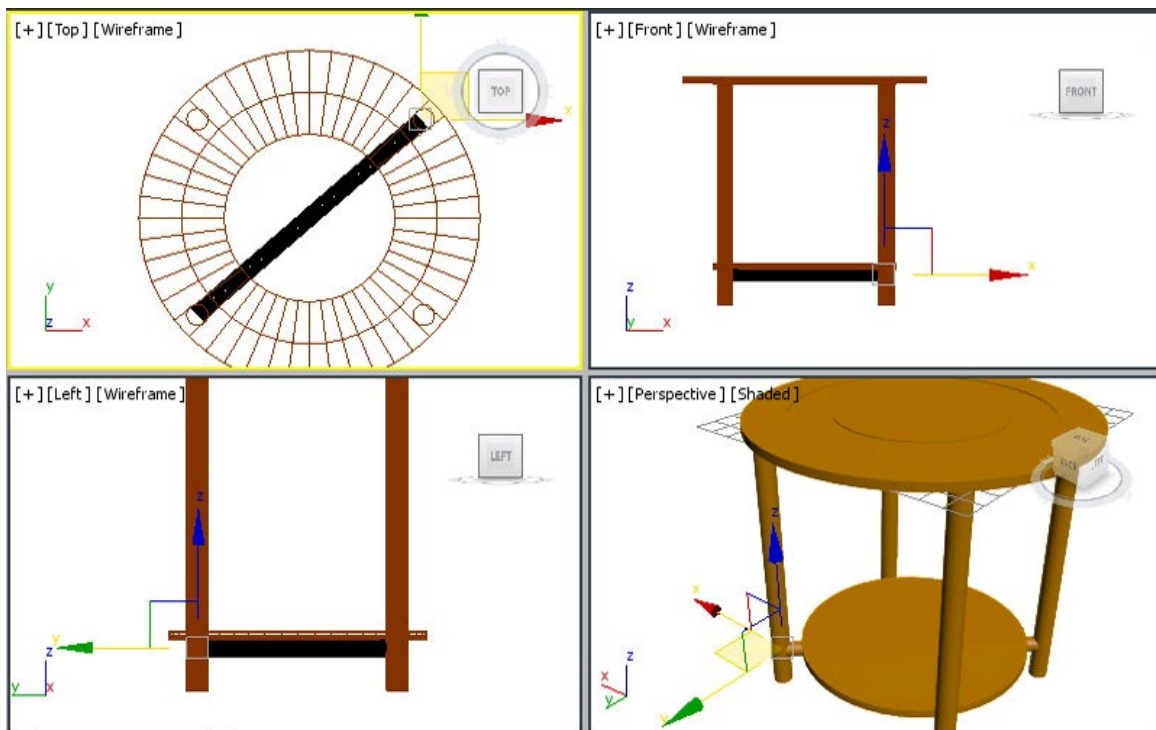

Figure 2-56 Alignment of *support01* in viewports
6. Align *support01* using the **Select and Move** and **Select and Rotate** tools from the **Main Toolbar**, as shown in Figure 2-56.